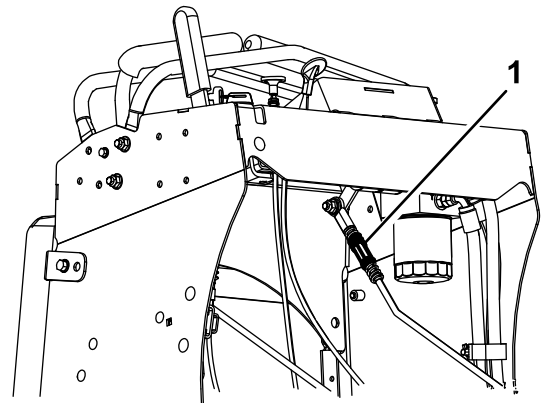

Figure 41
5. Rotate the adjustment rod on the left side of the machine (Figure 41).